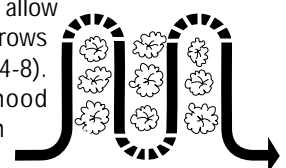

Figure 4-8
- When cultivating (breaking up surface soil around plants to destroy weeds, see Figure 4-8), adjust the tines to dig only 1" to 2" deep. Using shallow tilling depths helps prevent injury to plants whose roots often grow close to the surface. If needed, lift up on the handlebars slightly to prevent the tines from digging too deeply. (Cultivating on a regular basis eliminates weeds, and loosens and aerates the soil for better moisture absorption and faster plant growth.)
With planning, you can allow enough room between rows to cultivate (see Figure 4-8). Leave room for the hood width, plus enough extra room for future plant growth.